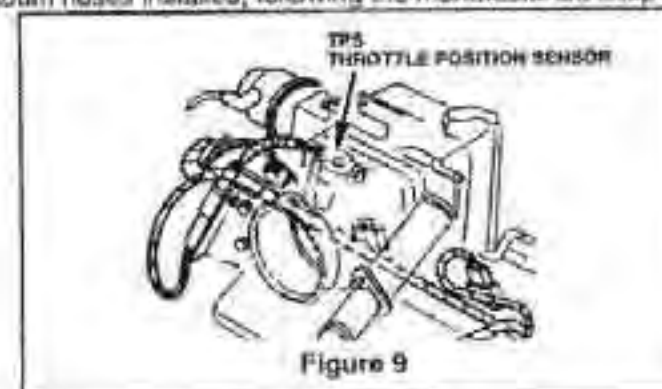

Figure 9
- 8.11 Connect the throttle position sensor wiring connector to the TPS Sensor. (See Figure 1, Connector #9, page 5 and Figure 9)